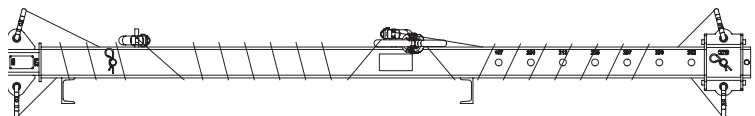

Fig. 22
6. Wrap crane lifting gear around the climbing beam and attach lifting eye (4.1) to fixing pin (1.3). (Fig. 22)
7. Wrap beam chains (3) around the climbing beam and attach load hooks to the fixing pins (1.3).